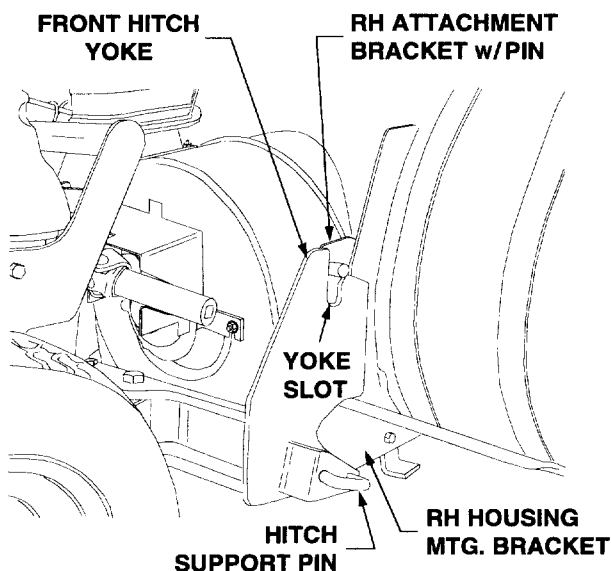

Figure 12
5. Start the tractor and align the front hitch yoke with the attachment brackets on each side of the rear blower housing (Refer to Figure 12).
6. Lower the front hitch yoke to clear the bottom of the attachment bracket pins and carefully drive the tractor forward to align the bracket pins with the slots in the hitch yoke (See Figure 12).
7. Using the tractor hydraulic system to raise the front hitch yoke, slowly lift the snow thrower until the hitch support pins snap into the holes of the LH and RH housing mtg. brackets (See Figure 12).
8. Stop the tractor engine and engage the parking brake. Check that support pins are fully engaged in the housing mtg. brackets holes (See Figure 12).
4. Using the tractor hydraulic system, lower the front hitch yoke to disengage the snow thrower attachment bracket pins from the slots of the hitch yoke (Refer to Figure 12).